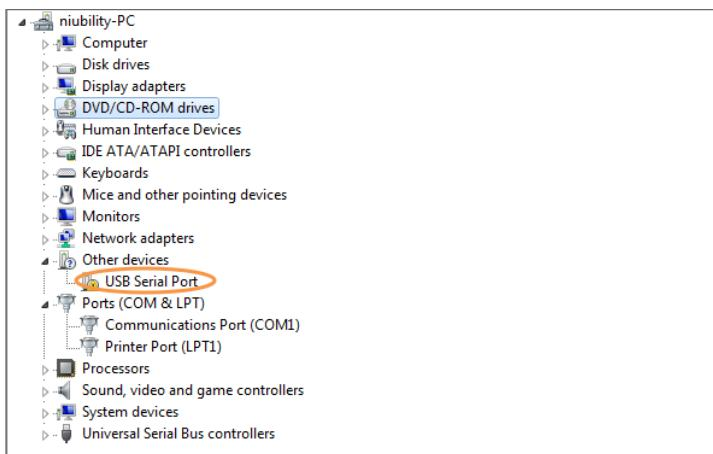

Figure 6-8 Unrecognized USB Serial Port on PC
- Power on your TR5 board, if you find an unrecognized USB Serial Port in Device Manager as shown in **Figure 6-8**. you should install the UART to the USB driver before you run the demonstration.